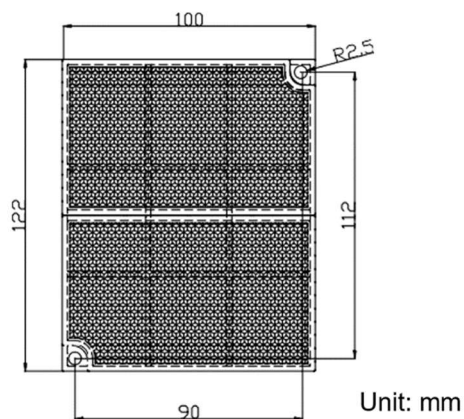
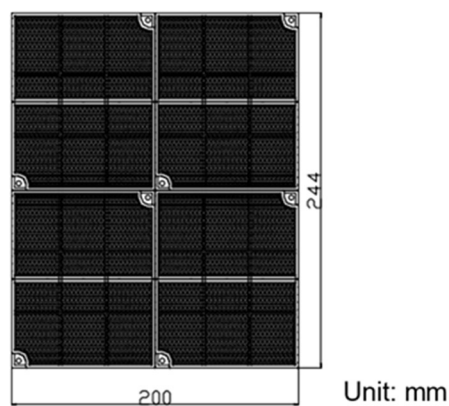

Fig. 11a
Fig.11b
- 2) Mounting the Reflector:** The reflector is mounted opposite the detector but in line with it. When the distance between the detector and the reflector is more than 8m (less than or equal to 40m), one reflector is enough. When the distance is more than 40m, four reflectors are needed. Two Ø6 plastic expansion bolts are needed to fix a single reflector. Mounting size is shown in Fig.11a. If four reflectors are needed, place them seamlessly as shown in Fig. 11b.